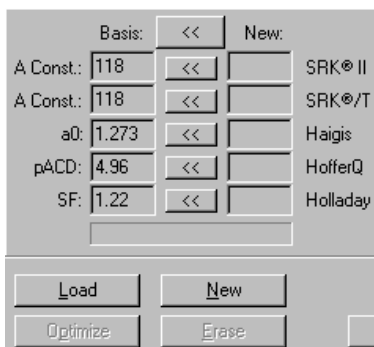

Fig. 53 Lens data in dialog box for selected lens
- Click on the **OPTIMIZE** button. The dialog box for the selected lens will appear and the lens constants can be seen in the **BASIS** column (Fig. 53).